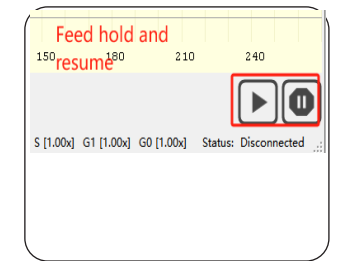

Figure 20 Feed hold and resume
- If you just want to pause while the laser is running and will resume unfinished work, you can click the feed hold and resume button as shown in Figure 20.